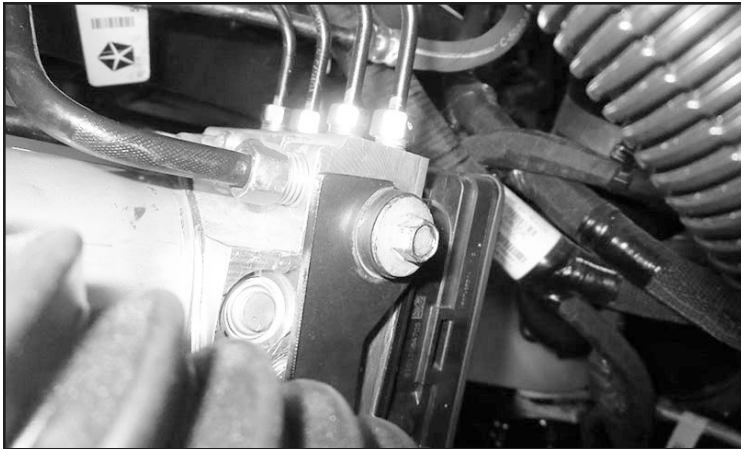

FIGURE 1 - STEP 6
6. **DRIVER SIDE ONLY** - Locate the Electronic Stability Control unit on top of the driver side upper coil spring mount. Remove and save the factory bolt on the back side of the unit. **SEE FIGURE 1**